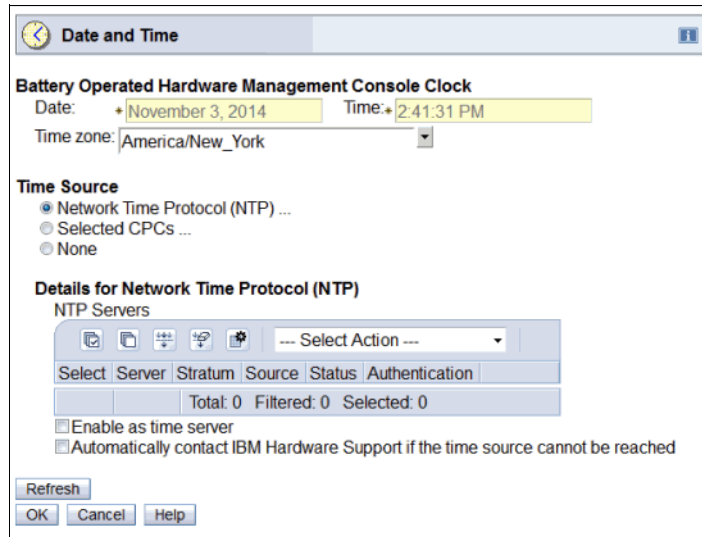

Figure 9-4 HMC: Customize Console Date and Time NTP selection
2. Select **Network Time Protocol (NTP)** as the time source (Figure 9-4).